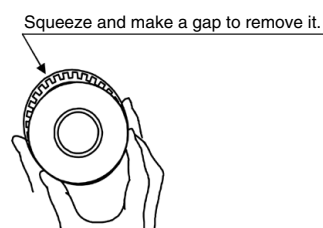

Fig. 2 Removal of piston seal
③⑤ Piston seal: Remove the piston seal. (Fig. 2)
④② Cylinder tube gasket: Insert a watchmakers screw driver to pull out the seal.